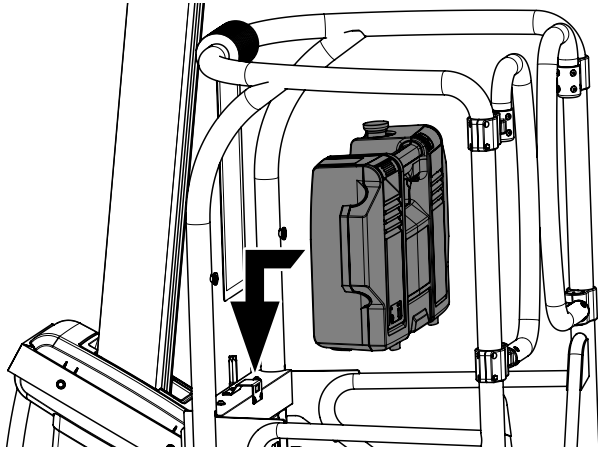

Figure 3-10. Powerpack positioned and latched into place
7. Place the powerpack (optional equipment) against the platform uprights, closest to the mast, and slide it down until it clicks, indicating it is fully seated (see Figure 3-10.).